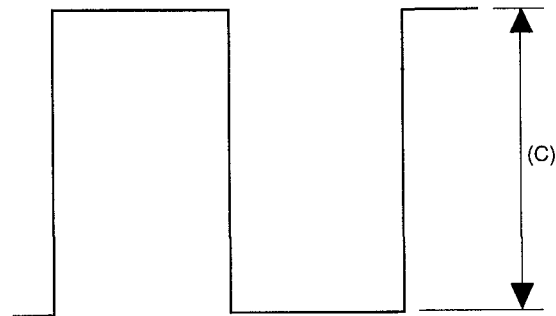

Fig. 2-105
(7) Common Amp Gain Adjustment (Fig. 2-105)
Press the **U** and **D** keys so the level at section (C) of the waveform is $6.5V \pm 0.2V_{p-p}$. (See Fig. 2-105)